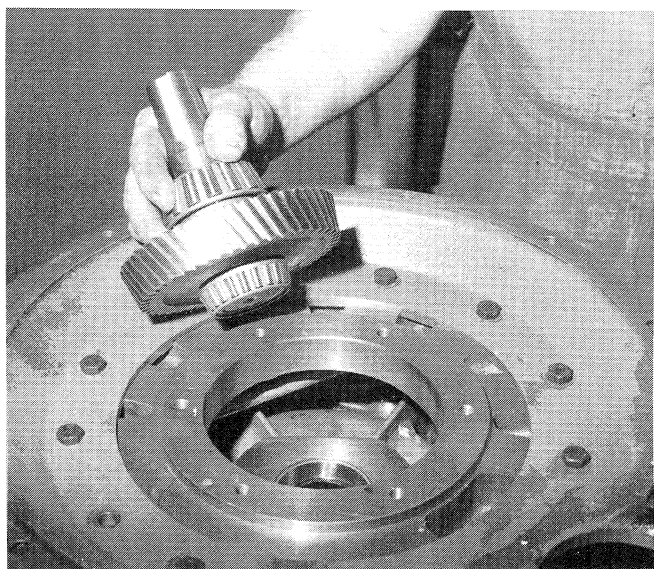

Figure 6-3. Removing the Input Shaft & Gear Assembly from Main Housing.
9. Remove the input shaft and gear assembly. See figure 6-3.